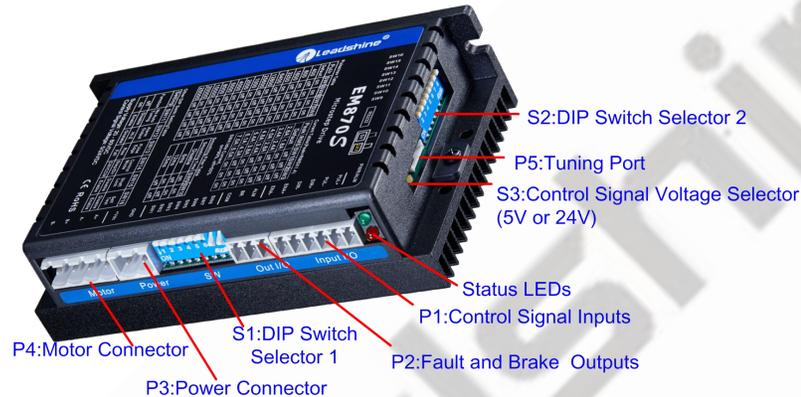

Figure 2 Connectors, DIP switches, and LED locations
ENA+	(6) The activated edge of PUL and DIR is set by DIP Switch SW13 (7) The factory setting of control signal voltage is 24V, must need to set S3 (figure 2) if it is 5V
ENA-	Enable Connection: Optional. (1) Optically isolated, differential. (2) Disable the drive by 4.5-5.0V or 24V input connection; enable the drive by 0-0.5V connection(default no connection) (3) ENA signal requires advance DIR signal minimum 5μs in single pulse mode (4) The default control signal voltage is 24V, to set S3 (figure 2) if it is 5V (5) Enable time to be at least 200ms
The EM870S can accept differential or single-ended control signals (pulse, direction, and enable) in open-collector or PNP connection through the P1 connector (figure 2). It is recommend to add an EMI line filter between the power supply and the drive to increase noise immunity for the drive in interference environments.
The first 8-bit is located on the side (DIP switch selector 1 in Figure 2) and used to configure settings of micro step resolution, output current, and motor standstill current as shown below, the factory setting of SW1-SW8 is **OFF, OFF, OFF, OFF, OFF, OFF, ON, ON**.
The second 8-bit DIP switch is located on the top (DIP switch selector 2 in figure 2), and used to configure settings of control command filtering time, motor auto-configuration, fault output impedance, pulse active edge, control mode, lock shaft, and self-test as shown below, the factory setting of SW1-SW8 is **OFF, OFF, OFF, ON, ON, OFF, OFF, OFF**.
The Third 1-bit selector is located on the top (DIP switch selector 3 in figure 2), used to configure the voltage of control signals. For the safety of optically coupled, the factory setting is 24V, which no need to connect 2K resistors like the old drives, making it easier to use. When the voltage of the control signal is 5V, the S3 must be set to 5V, otherwise, the motor won't work.